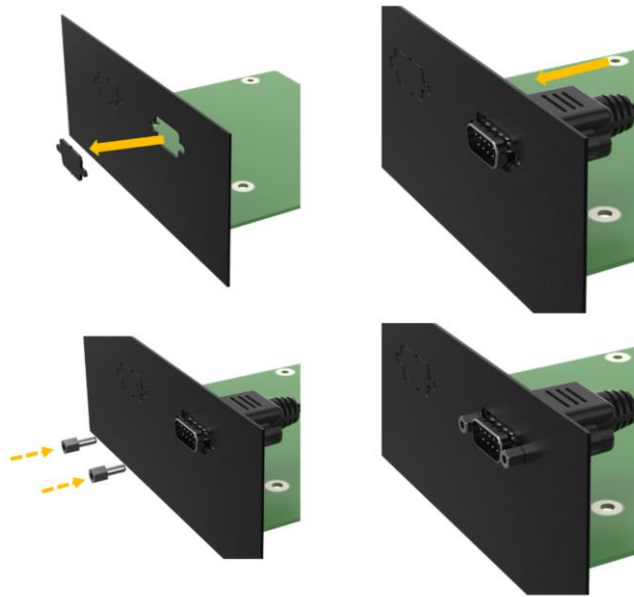

Figure 3-12: RS-232 DB9 Cable Installation
Step 3: Knock out the reserved holes on the chassis and secure the DB9 end of the serial cable to the panel. (**Figure 3-12**)